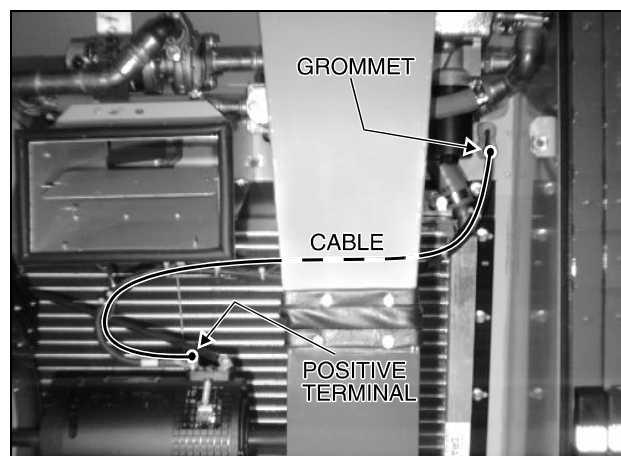

FIGURE 1
1. Inside evaporator compartment (on L.H. side of vehicle), locate evaporator motor (Fig. 1). Disconnect cable from positive terminal (L.H. side) from evaporator motor. Cut cable ties and undo retaining clips on cable route. Scrape off caulking around the grommet.